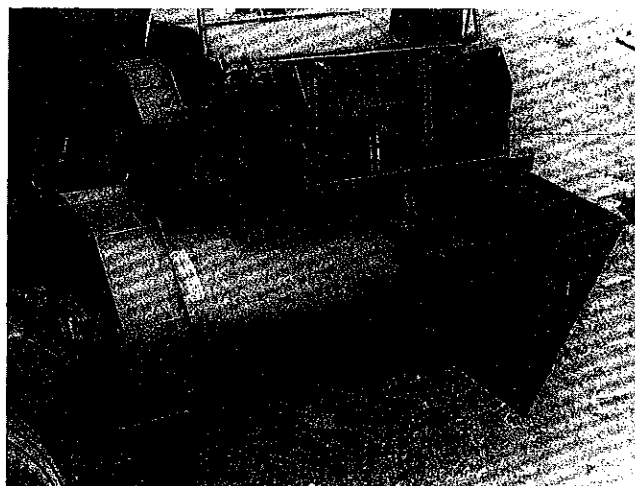

Figure 5 — Mounted Sheller Body
11. Position the sheller main assembly on to the frame angles and fasten with 4 each 1/2 x 1-1/2 carriage bolts, lock washers and hex nuts. See Figure 5.